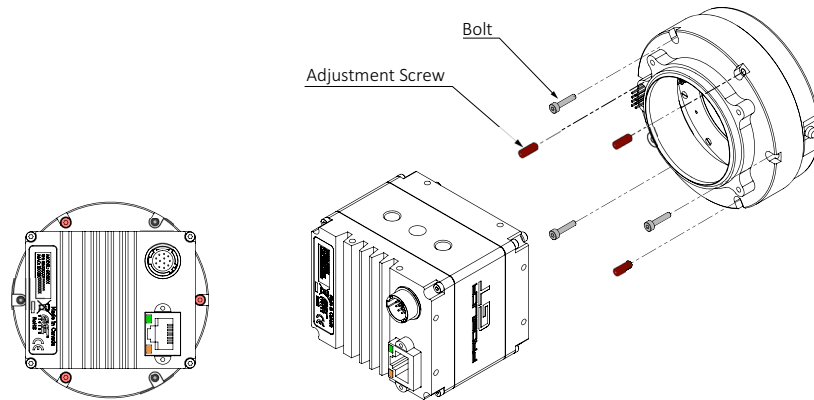

Figure 61: Back view (left) and exploded view (right) of Prosilica GT1930L camera assembly showing the adjustment screws and bolts in the EF-Mount
- Using an EF-Mount compatible lens, set the lens to infinity and image on a target (10 to 15 m). Target should highlight focus levels at center image and at the corners of the image, as shown in figure 61. A lens with a long focal length, or adjustable zoom lens, will allow more precision for this operation and reduce the overall size of your target.
Adjust the three tilt adjustment screws, as indicated in figure 61, until all targets are in focus.